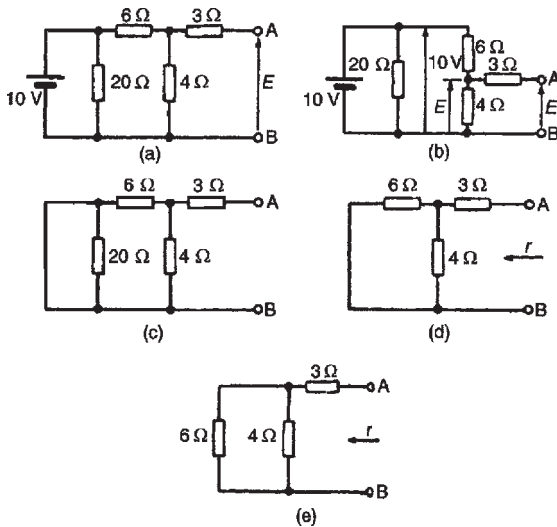

Figure 15.33
- (v) For the circuit shown in Fig. 15.33(a), the 3Ω resistor carries no current and the p.d. across the 20Ω resistor is 10 V. Redrawing the circuit gives Fig. 15.33(b), from which
- (vi) If the 10 V battery in Fig. 15.33(a) is removed and replaced by a short-circuit, as shown in Fig. 15.33(c), then the 20Ω resistor may be
removed. The reason for this is that a short-circuit has zero resistance, and 20Ω in parallel with zero ohms gives an equivalent resistance of $(20 \times 0)/(20 + 0)$ i.e. 0Ω . The circuit is then as shown in Fig. 15.33(d), which is redrawn in Fig. 15.33(e). From Fig. 15.33(e), the equivalent resistance across AB ,